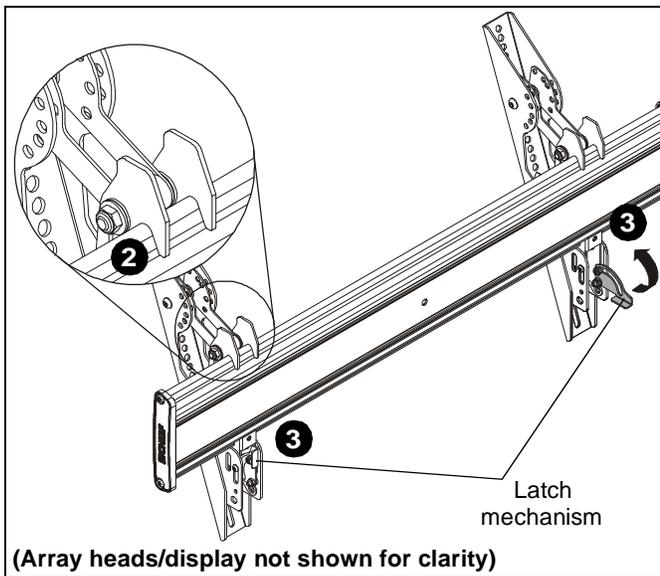

Figure 12
2. While supporting both sides of display, lower display onto center of ceiling mount, hooking top of interface brackets onto front of ceiling mount. (See Figure 12)
3. Raise the latch mechanism on both interface brackets to lock bracket in place. (See Figure 12)